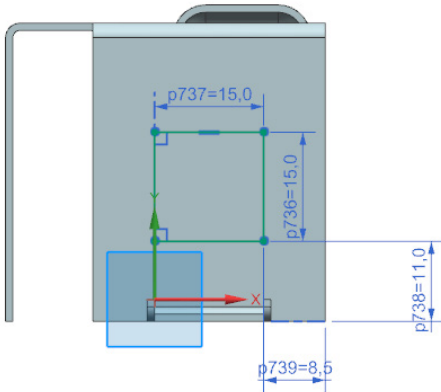

Figure 14-123 Profile of the drawn cutout
2. Select the right face of the model and draw the profile of the drawn cutout, as shown in Figure 14-123.